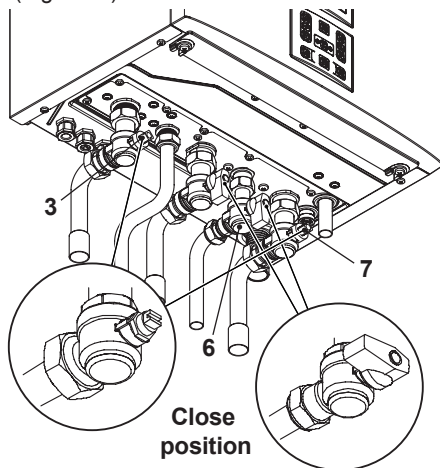

Fig. 10.9
- Turn off the D.C.W. inlet isolating valve 6 (Fig. 10.9).
- Close the C.H. isolating valves (3 and 7 in Fig. 10.9).